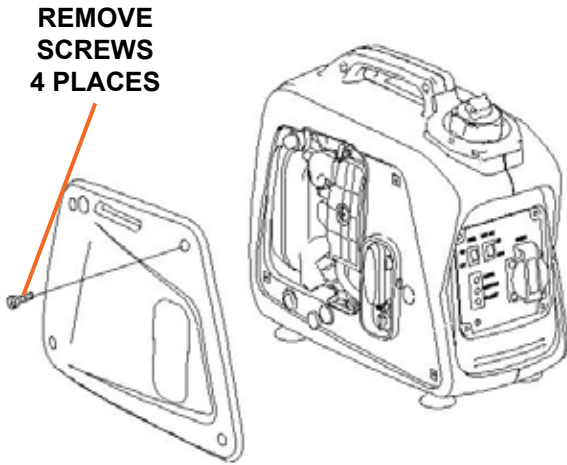

Figure 5
2. Loosen four screws and remove the cover on the left side of the generator with recoil handle (see Figure 5).
1. Loosen four screws and remove the cover on the left side of the generator with recoil handle (See Figure 5).